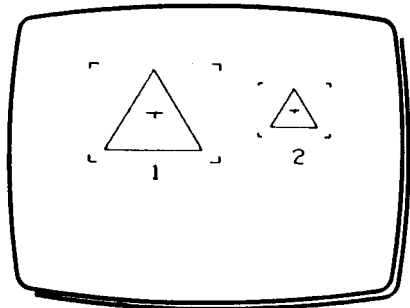

Fig 2
- 2 Move XY to position the cursor frame at (1) in Fig 2.
- 5 Move XY to position the cursor frame at (2) in Fig 2.